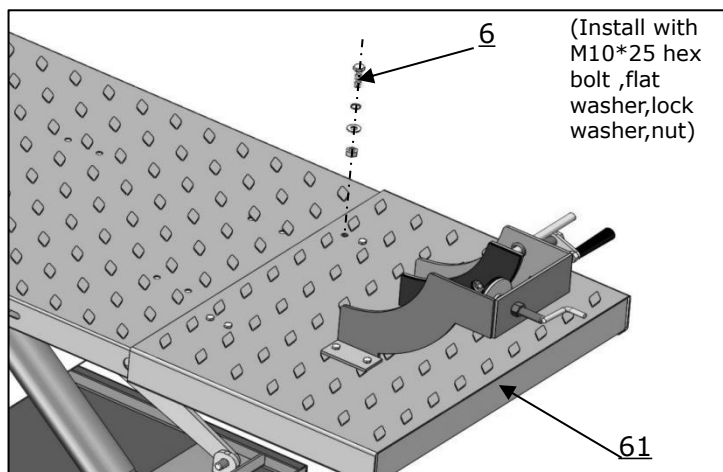

Fig.13
E. Install Optional Length Extension Kit (MC002) . See Fig 13